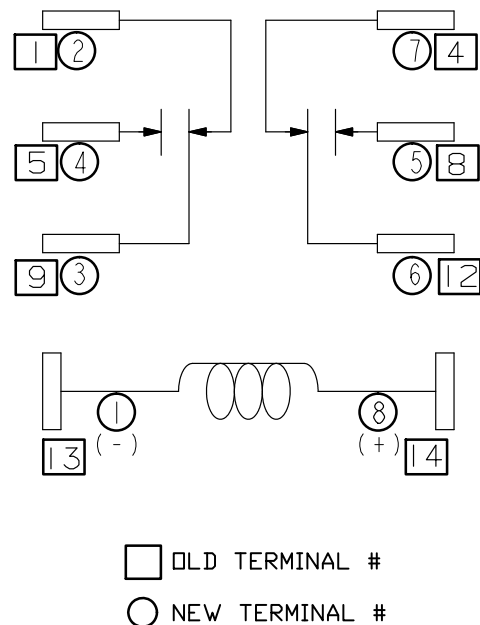

FIGURE 2
- 4- Connect wires to new relay as shown in figure 2.